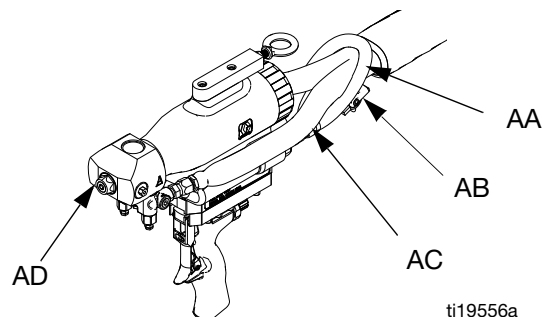

FIG. 6
4. Connect gun air whip hose (AA) and air valve (AB) to main air hose. See FIG. 6. Verify air valve is closed.
5. Assemble fluid manifold (AD) to gun by hand then use 5/16 in. nut driver to torque bolt to 20-30 in-lb (2.26-3.39 N•m). See FIG. 6.
6. Connect gun air whip hose (AA) to air line (AC). Turn on air. Open air valve (AB). See FIG. 6.